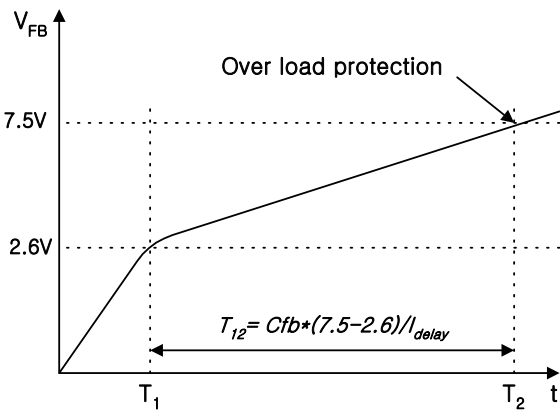

Figure 19. Over Load Protection
Overload means that the load current exceeds a pre-set level due to an abnormal situation. In this situation, the protection circuit should be activated to protect the SMPS (Switch Mode Power Supplies). However, even when the SMPS is in normal operation, the over load protection circuit can be activated during the load transition. To avoid this undesired operation, the over load protection circuit is designed to be activated after a specified period to determine whether it is a transient situation or an overload situation. Because of the pulse-by-pulse current limit capability, the maximum peak current through the SMPS is limited, and therefore the maximum input power is restricted with a given input voltage. If the output consumes beyond this maximum power, the output voltage (Vo) decreases below the set voltage. This reduces the current through the opto-coupler diode which also reduces opto-coupler transistor current increasing Vfb. If Vfb exceeds 2.6V, D1 is blocked and the 5mA current source starts to charge Cfb slowly compared to when the 0.9mA current source charges Cfb. In this condition, Vfb continues increasing until it reaches 7.5V, and the switching operation is terminated at that time as shown in Figure 19. The delay time for shutdown is the time required to charge Cfb from 2.6V to 7.5V with 5mA. When Cfb is 10nF (103), T12 is approximately 9.8ms and when Cfb is 0.1mF (104), T12 is approximately 98ms. These values are enough to prevent SMPS from being shut down during transient situations.